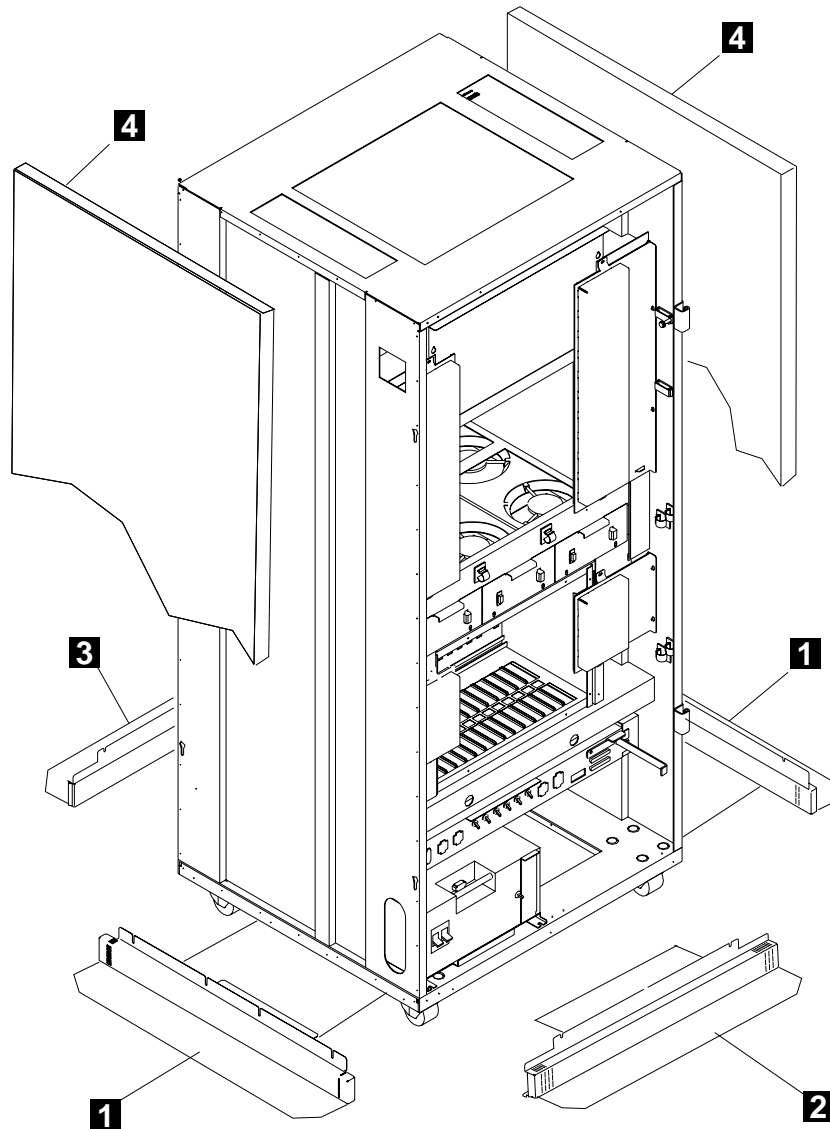

Figure 5-2. 3746-950 Ground Brackets (Front View)
Step 1. ____ If installed, remove the two covers **4** by loosening their mounting screws (refer to Figure 5-2).